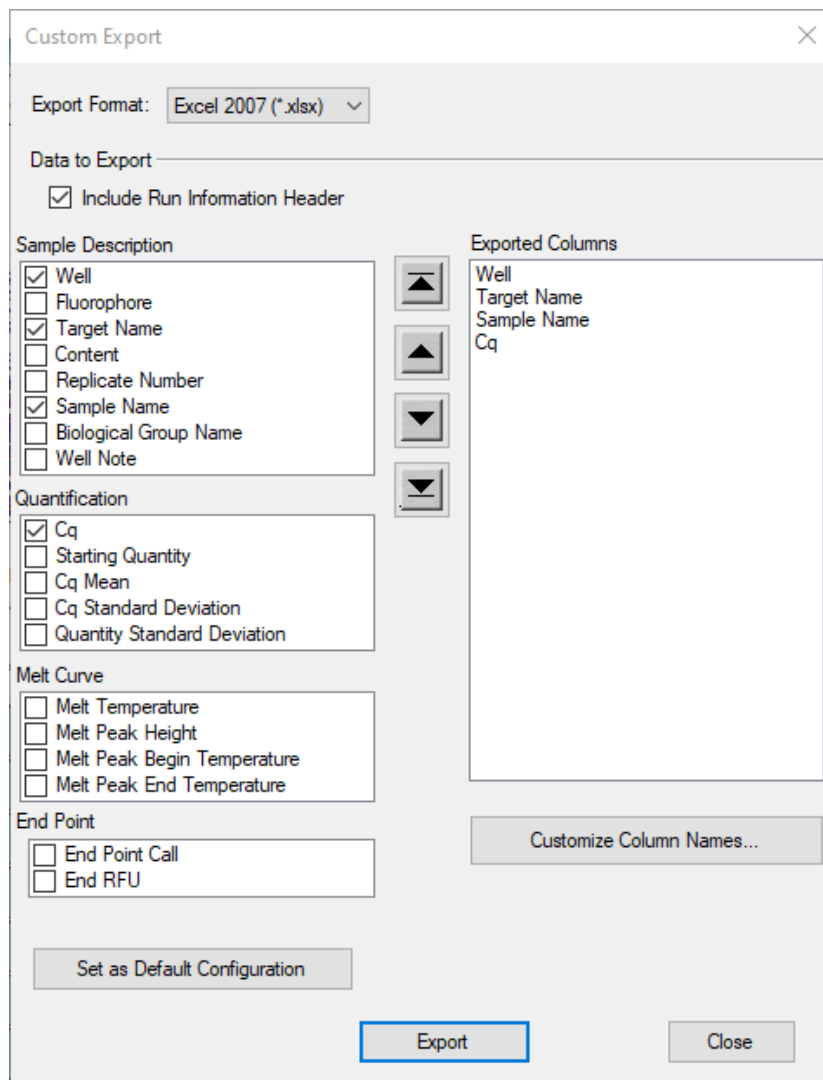

Figure 36 Custom data export settings for the CFX Maestro application
- 3 In the dialog box, mark the check boxes as shown in **Figure 36**. Review the Exported Columns section to make sure it lists **Well**, **Target Name**, **Sample Name**, and **Cq**.